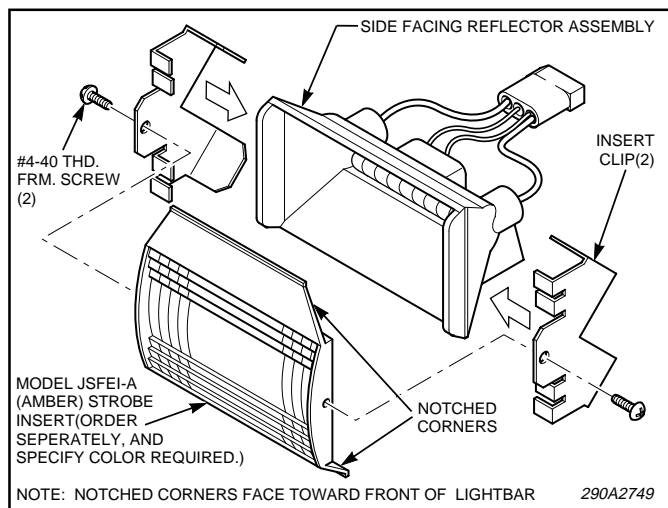

Figure 5. JSFEI Installation.
1. See figure 5. Position two insert clips on the side facing reflector/flash tube assembly and press the clips until they slide into position.
2. Position the separately purchased insert as shown in figure 5. Align the holes in the insert with the holes in the clips and secure with two #4 screws.
2. Unscrew the cone, being careful not to lose the five (5) washers.
5. Remove the driver, being careful not to lose the two (2) washers.
7. Reinstall the driver. Ensure that washers are installed correctly (see figure 5). Reconnect the driver lead wires to the light assembly feed wires. Secure connections with wirenuts.